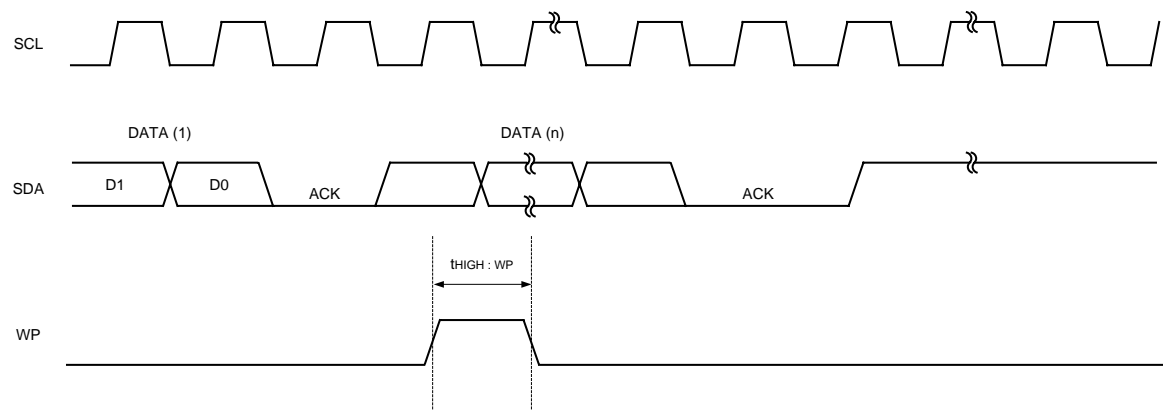

Fig.6(b) WP TIMING OF THE WRITE CANCEL OPERATION
- For the WRITE operation, WP must be "LOW" during the period of time from the rising edge of the clock which takes in D0 of first byte until the end of tWR. (See Fig.6 (a))